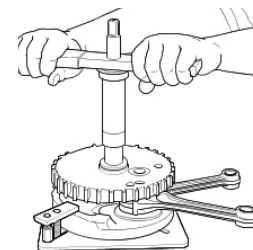

Figure 10. Inner Race onto Sprocket Installation
5. See Figure 10. Rotate the handle of the tool in a clockwise direction until the bearing inner race bottoms against the thrust washer.